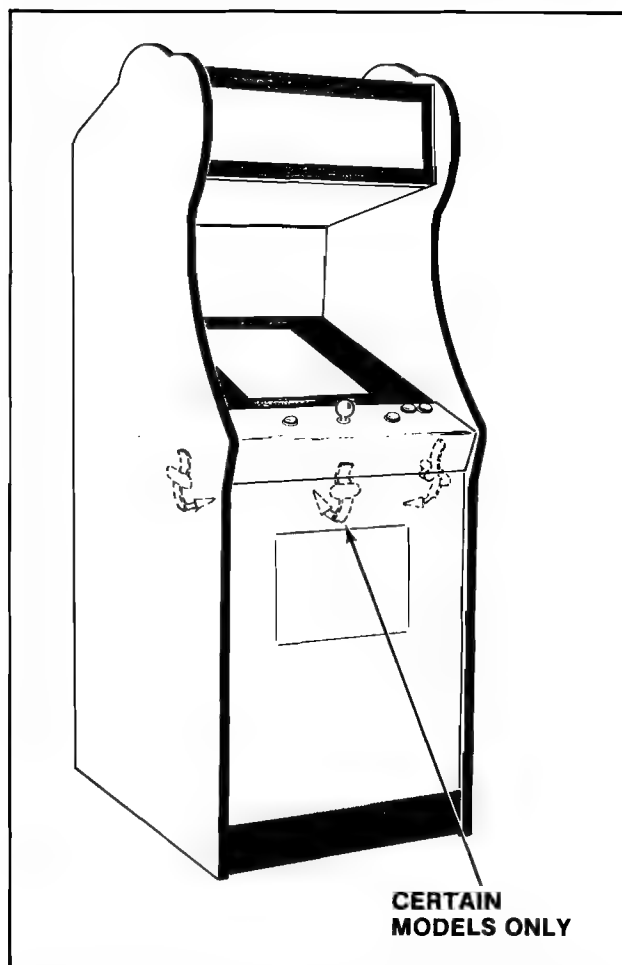

Figure 2-2 Opening the Control Panel - Upright
2.4.1 UPRIGHT MODEL: (See Figure 2-2)
- ❑ The control panel is held in place by two or three latches. See Figure 2-2.